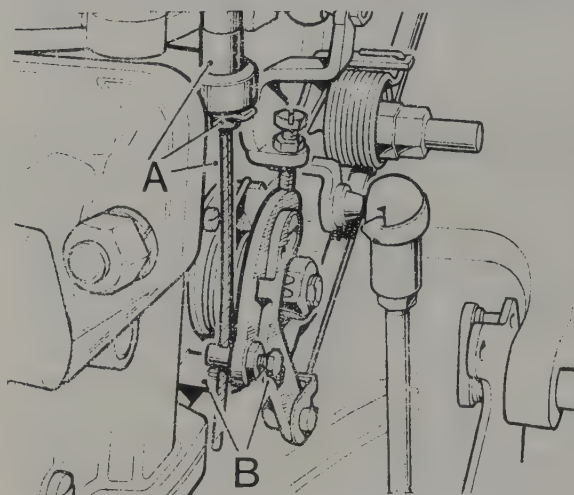

Fig. 3.14. Choke control fixings at carburettor
- 7 Withdraw the cable assembly through the panel (Figs. 3.14, 3.15 and 3.16).